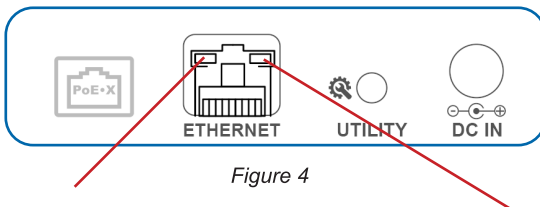
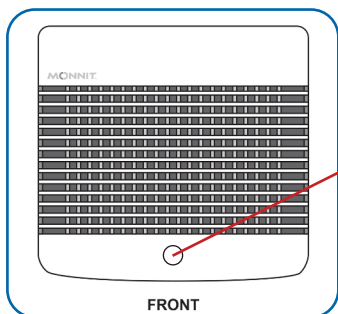

Figure 4
Figure 5
**Operational stage:** In the operational stage, the Ethernetlights will remain active while the Sensor Status light remains off — unless there is an issue. See Figure 4 & Figure 5.